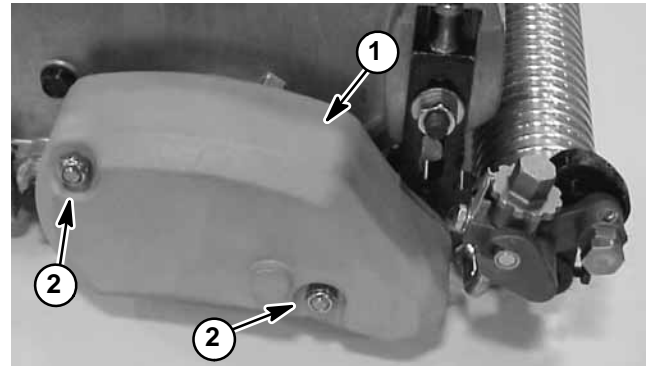

Figure 4
2. Remove two (2) lock nuts that secure groomer belt cover to cutting unit, then remove cover (Fig. 4).